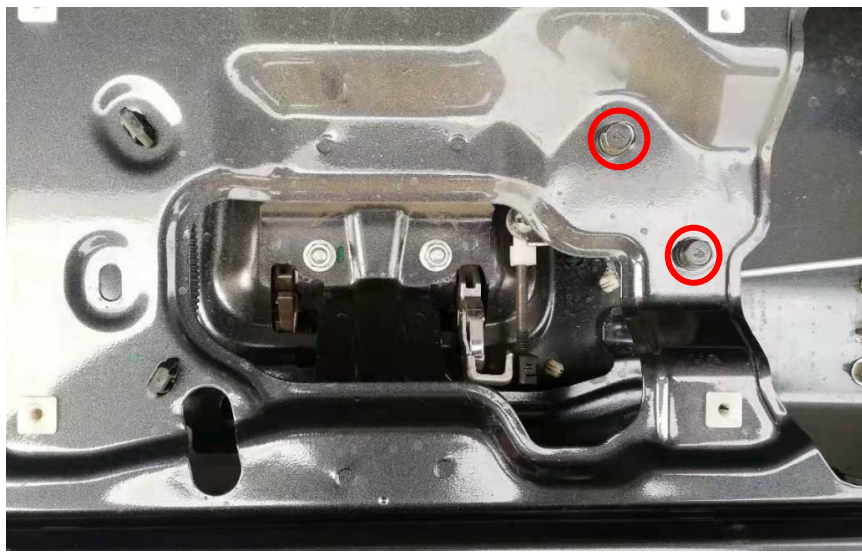

Figure 5
2. Remove the 2 screws of the original car to install the actuator. (See figure 5)